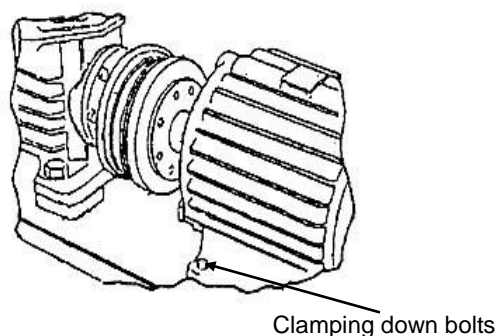

FIG 43.
- F. Remove the clamping down bolts on the motor. (Fig 43)